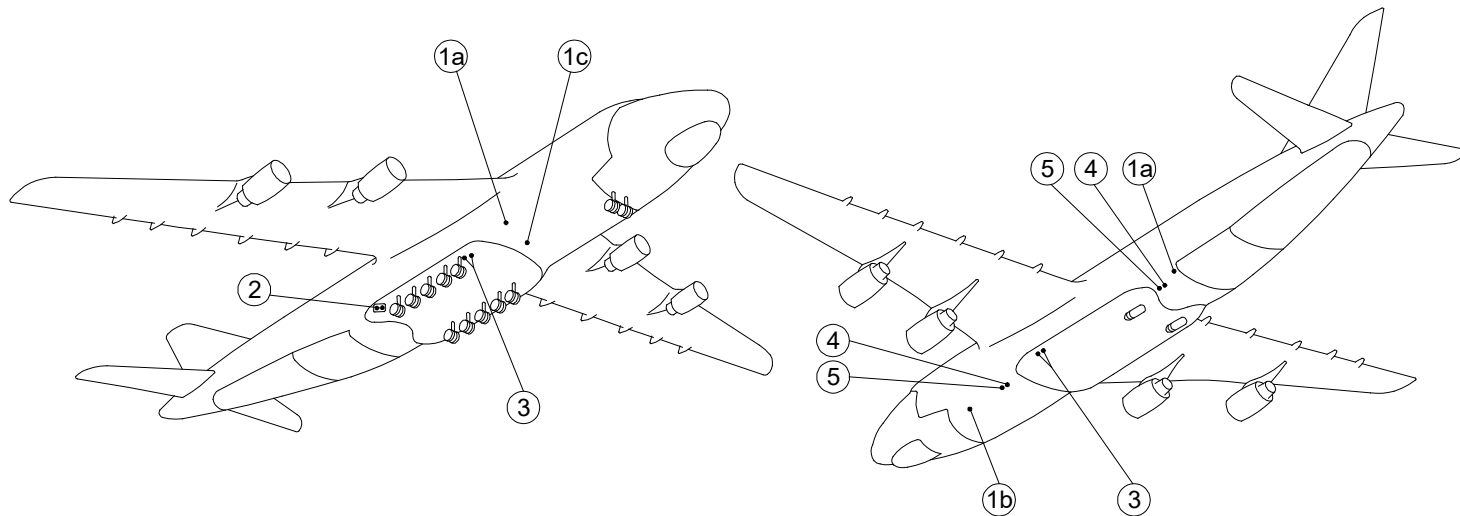

Figure 10. Placement of ground handling draw-off points (bottom view) for AN-124-100(150)
- Figure 10. Placement of ground handling draw-off points (bottom view) for AN-124-100(150).